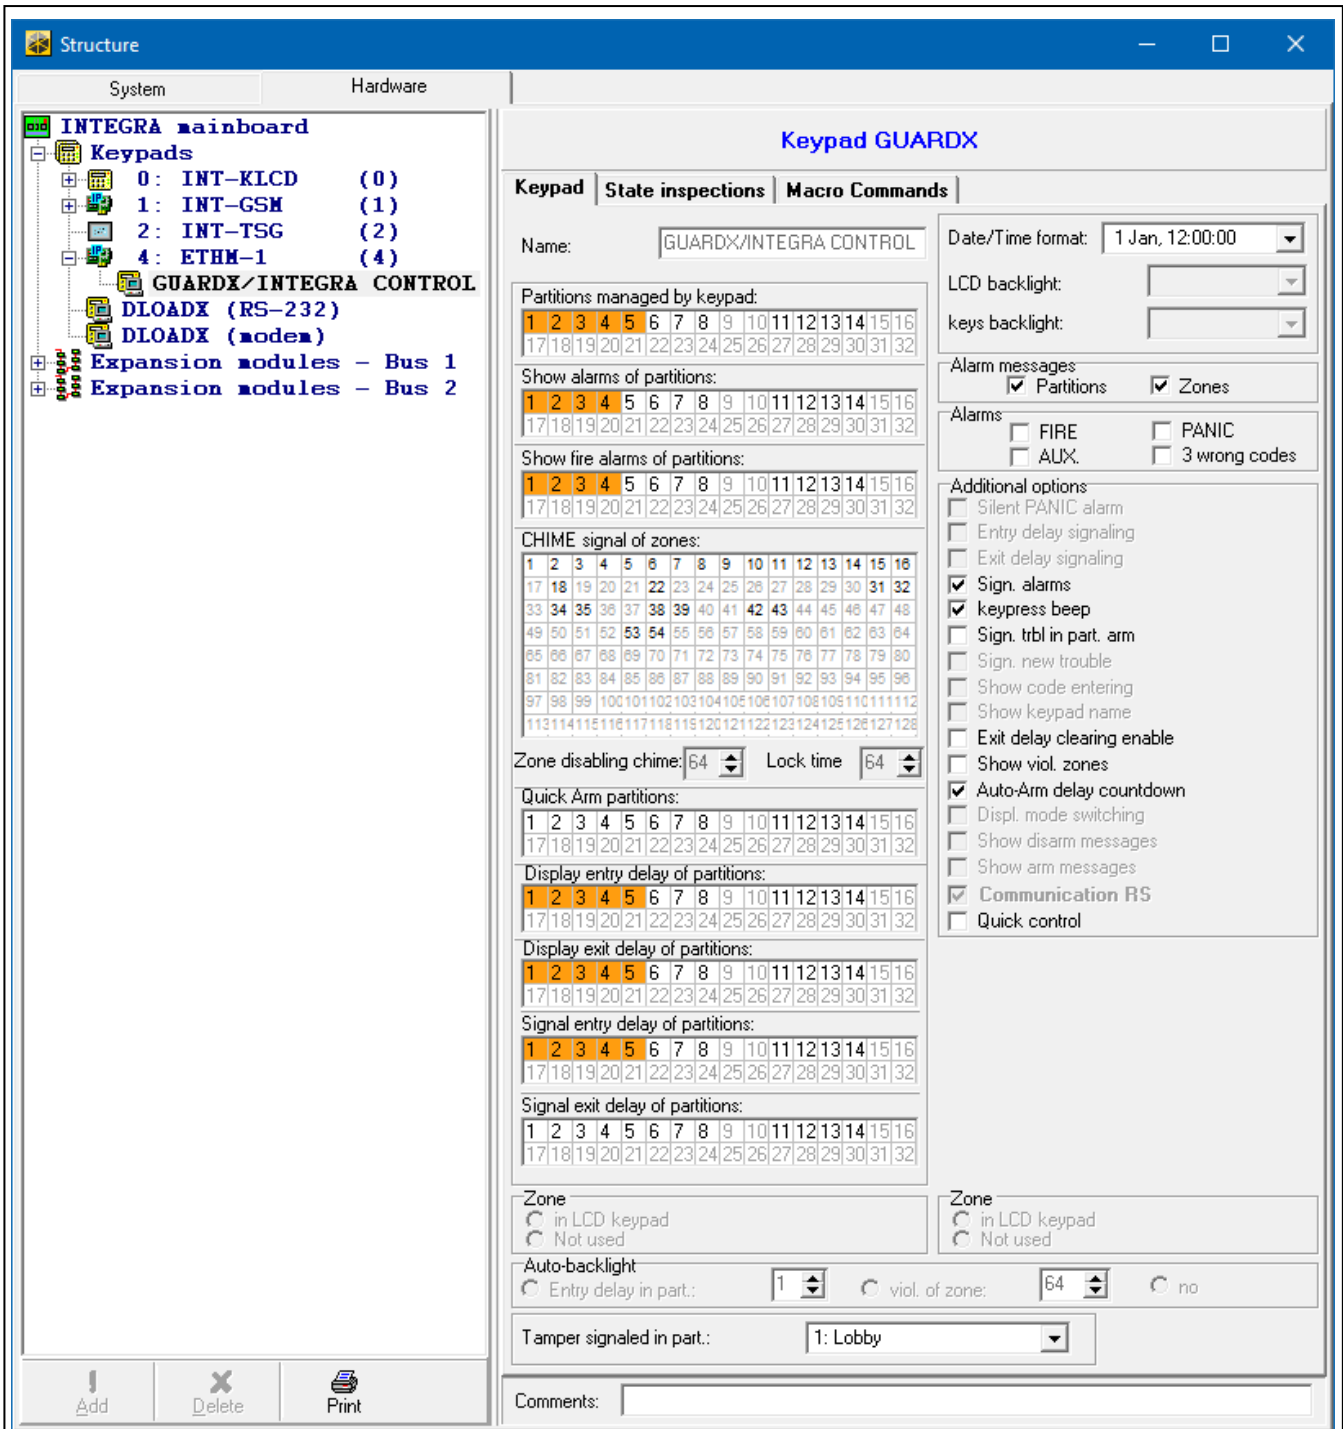

Fig. 11. DLOADX program: parameters and options of the virtual keypad available in GUARDX program, web browser or mobile device.
- DLOADX program: →“Structure” window →“Hardware” tab →“Keypads” branch →[*module name*] branch →“GUARDX/INTEGRA CONTROL” item (Fig. 11).